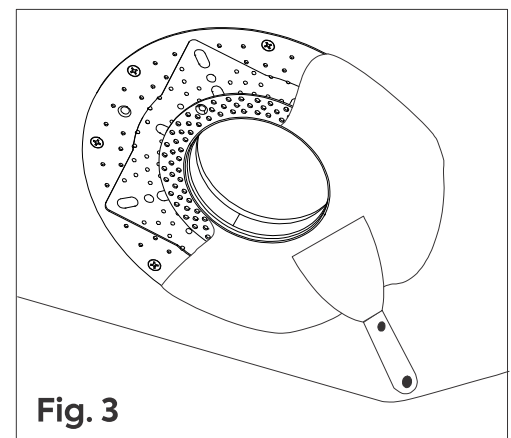

Fig. 3
Step 4: Apply plaster over the downsizer ring and spackle frame without letting any of the plaster into the hole opening of the housing. Use provided cardboard cutout to cover the hole opening while plastering if necessary **Fig. 3**.